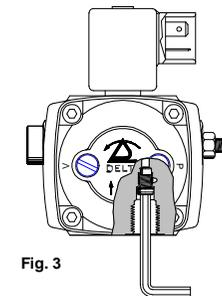

Fig. 3
- c) Insert and screw the by-pass plug in the return port (Fig. 3).
- a) Using a 4 mm Allen wrench, unscrew the by-pass plug from the return port (Fig. 3).